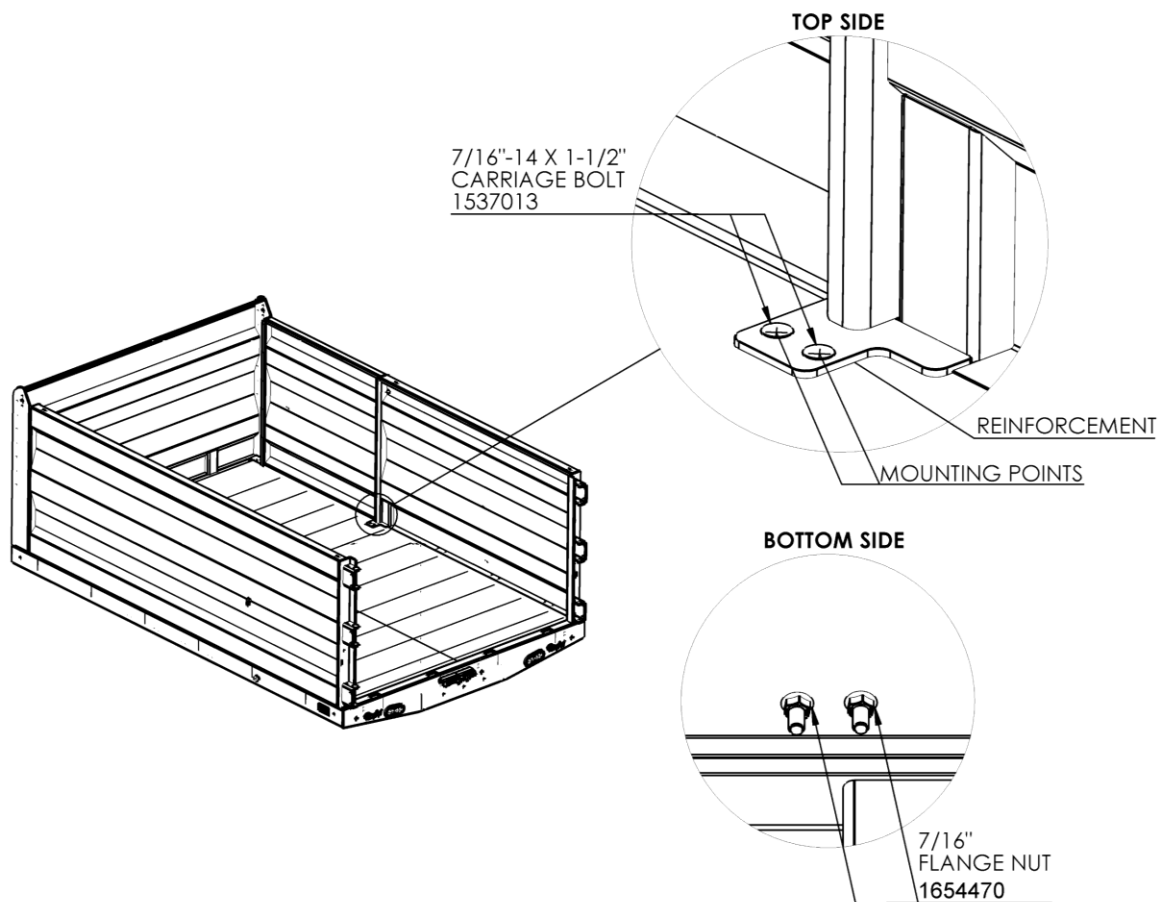

Figure 7: Bolting Right Side to the Platform
- a. The Reinforcement firmly holds the Right Side upright by fastening the Reinforcement to the floor of the platform. To correctly position the mounting location for fastening, the right side must be installed and tightly fastened. Locate the Reinforcement and mark the location in the center of the square hole of the Reinforcement. Refer to **Figure 7**.
- b. Next, drill two (2x) 7/16" holes in the floor of the platform, one at each of the marked locations. Refer to **Figure 7**.
- c. Then, mount the reinforcement with two (2x) 7/16" X 1-1/2" Carriage Bolts (1537013) fastened by two (2x) 7/16" Flange Nuts (1654470) on the bottom side of the platform. Refer to **Figure 7**.